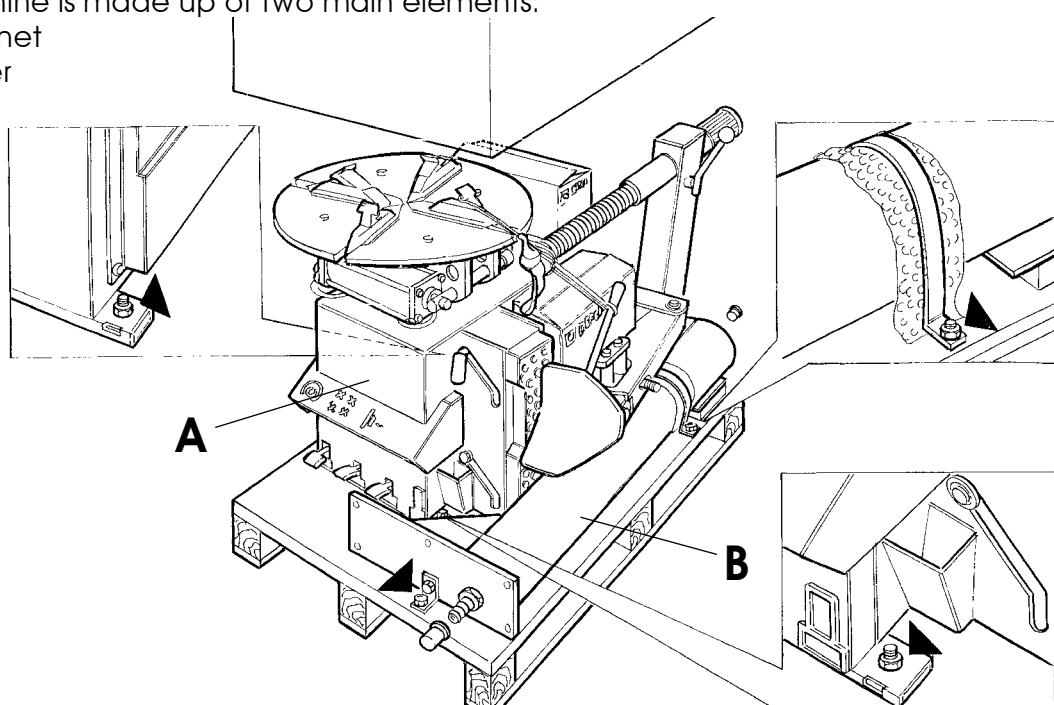

Fig. 1
- Remove the packing from the top section of the machine and check to see if it has been damaged during transport. Find the points where the machine is fixed to the pallet (Fig.1).